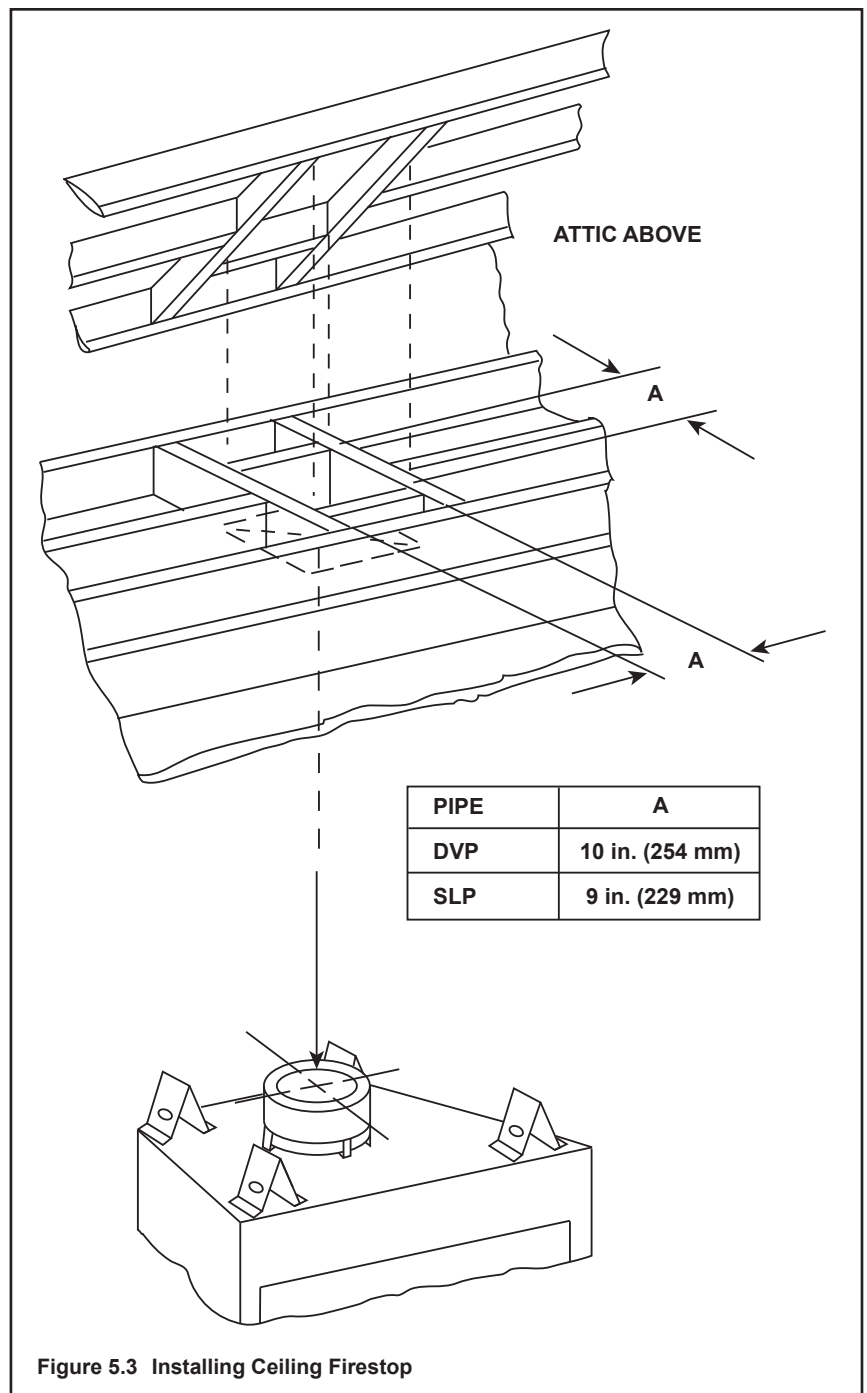

Figure 5.3 Installing Ceiling Firestop
- **DVP pipe only** - Frame an opening 10 in. by 10 in. (254 mm by 254 mm) whenever the vent penetrates a ceiling/floor (see Figure 5.3).
- **SLP pipe only** - Frame opening 9 in. x 9 in. (229 mm x 229 mm) whenever the vent penetrates a ceiling/floor (see Figure 5.3).